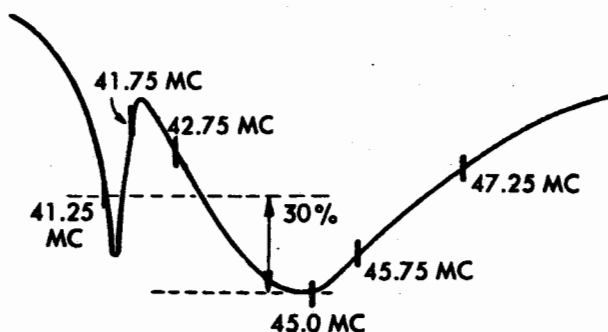

Figure 6 - Typical Response Curve of Last IF Stage, Taken at Test Point C2.
6. Connect oscilloscope to test point C2. Adjust primary and secondary slugs of T4 to obtain response similar to Figure 6. Note comparison of response at C2 with response obtained at C1. The response at C2 will only be approximately 1/3 as great as the response at C1 (10 db less than C1 response at 45.75 mc). Increase oscilloscope gain controls accordingly to obtain response as shown in Figure 6. The 41.25 mc marker should be approximately 30% below 45.0 mc at C2. Recheck T4 adjustment if necessary.